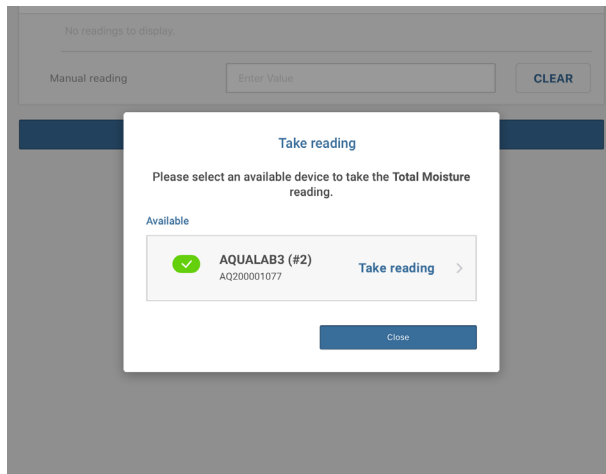

Figure 63 Take reading popup window
7. Select Take reading to the right of the device name shown in the Take reading popup window (Figure 63).